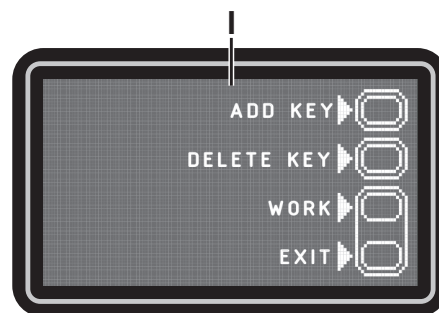

Figure 11
**User Key Management Screen (I, Fig. 11)**